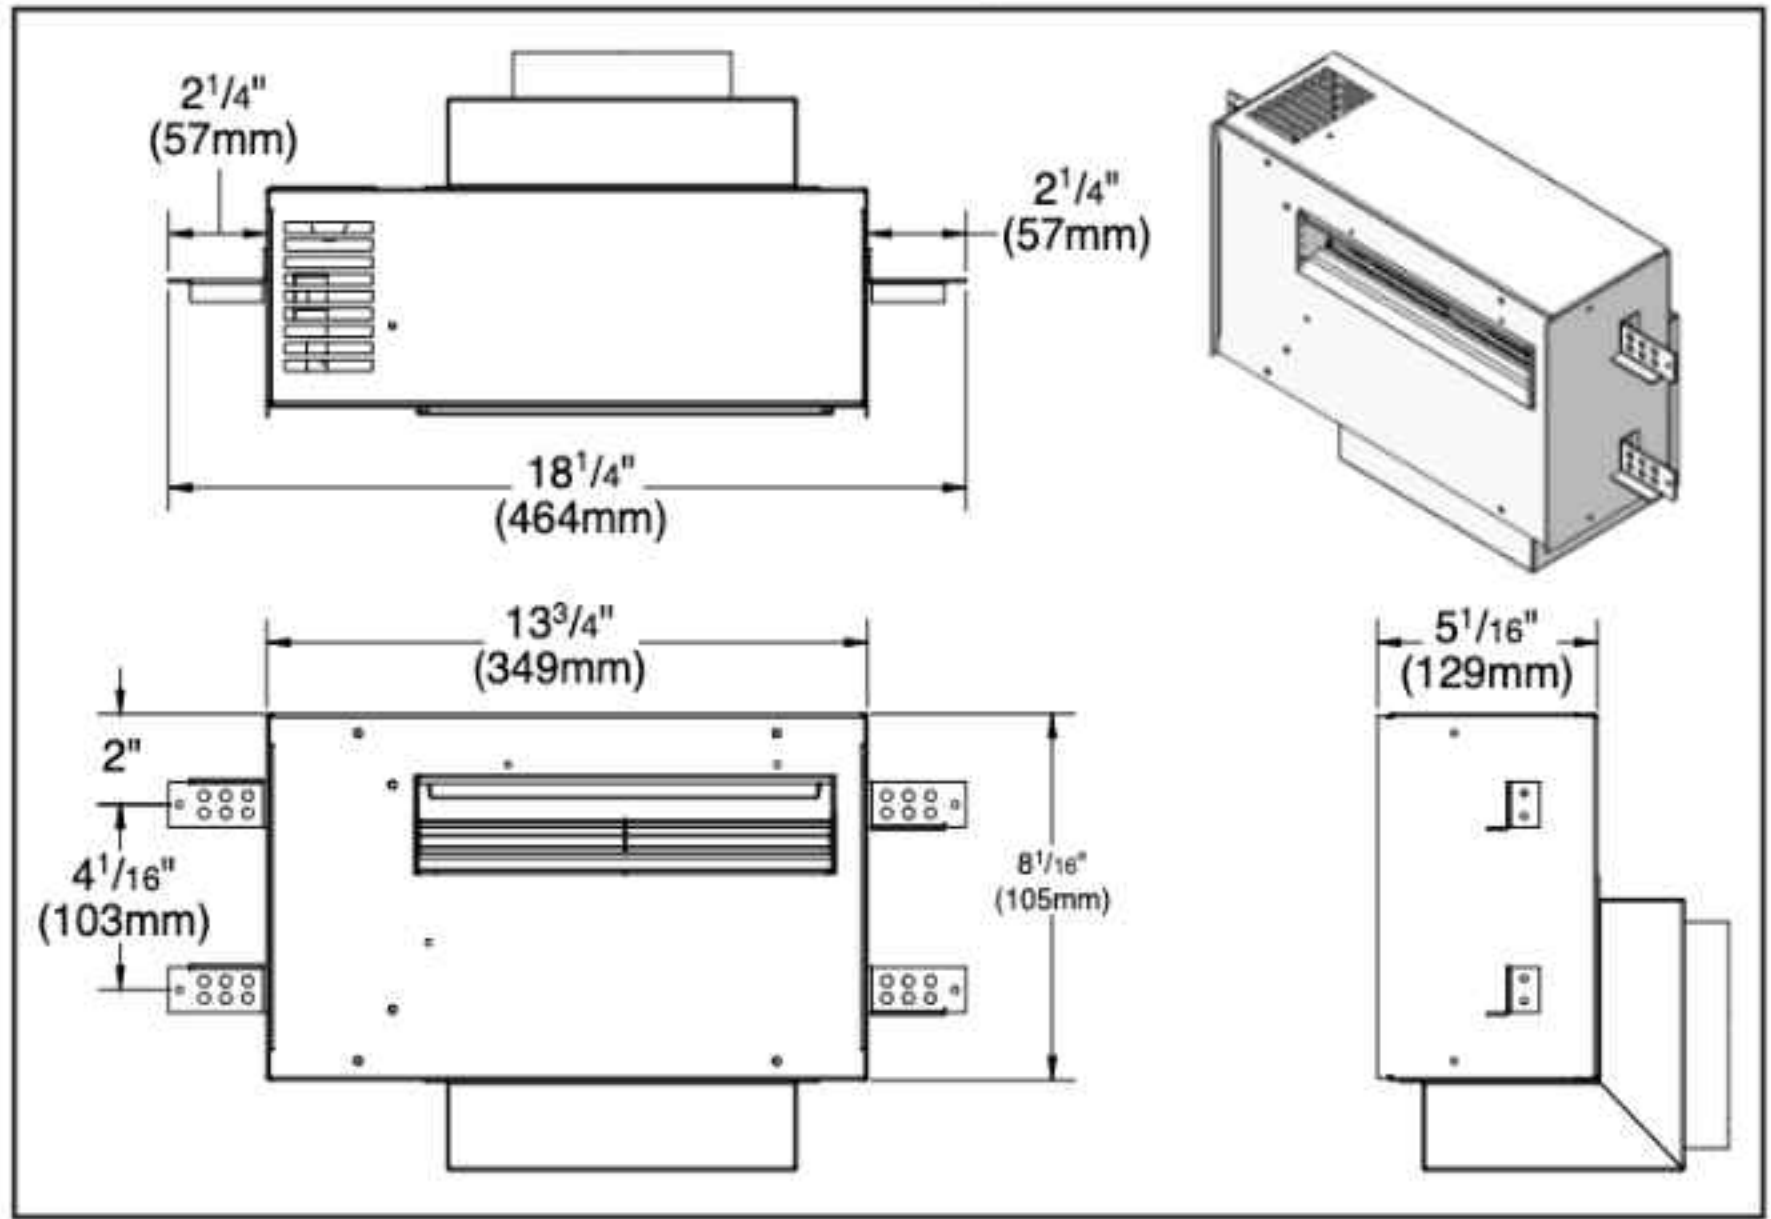
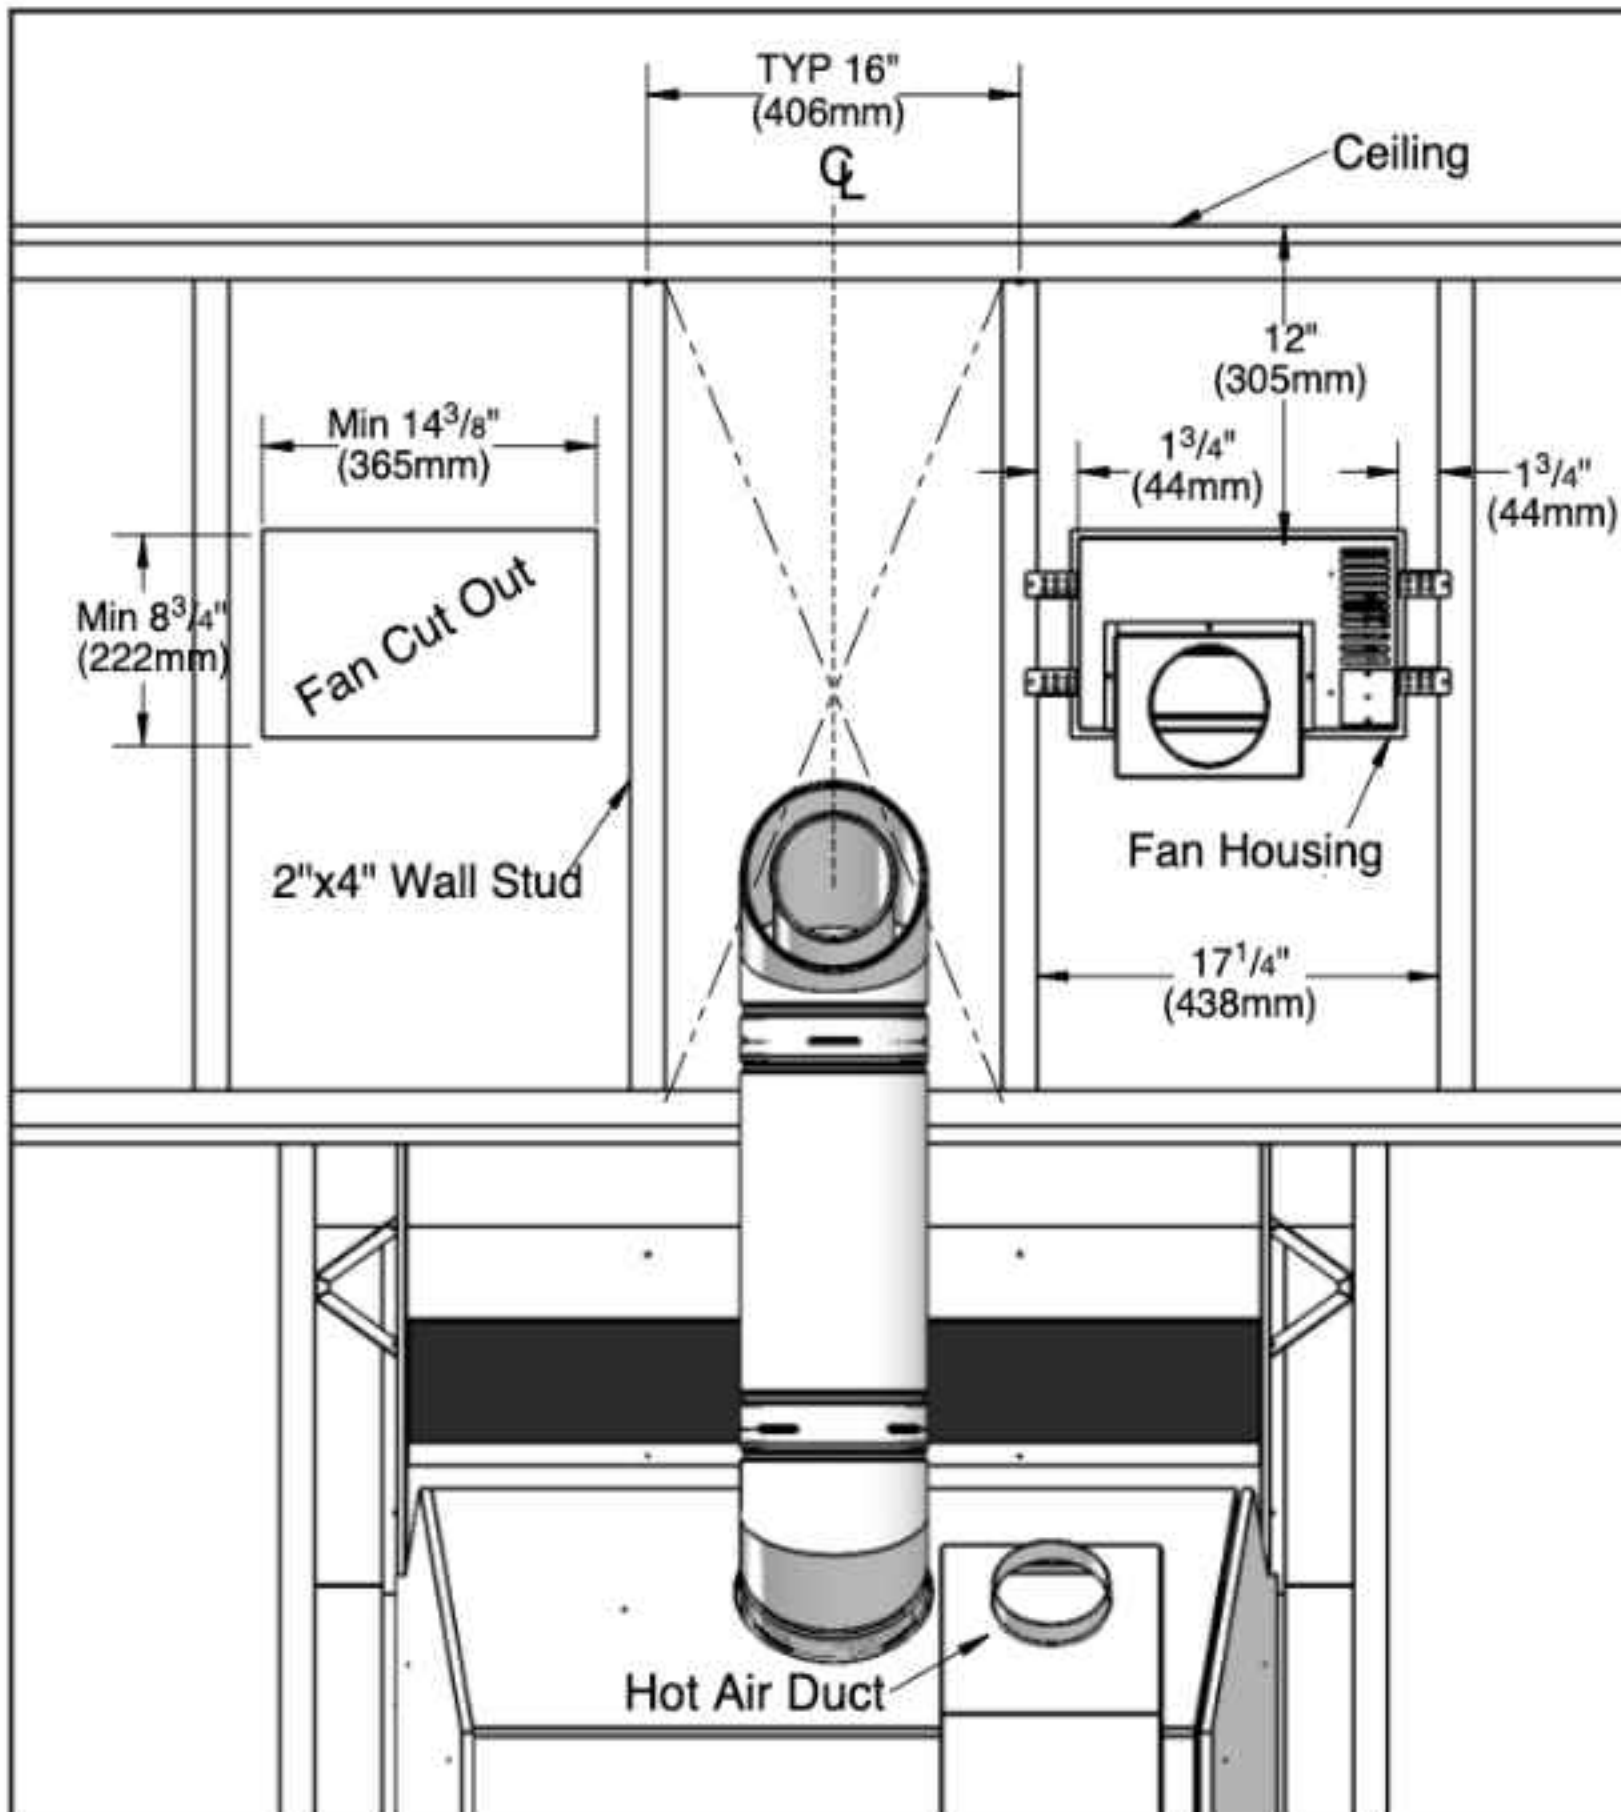

Figure 5: Fan housing overall dimensions.
Figure 6: Minimum Installation Clearances for Fan.
4. With the "FIGURE 5: FAN HOUSING OVERALL DIMENSIONS," and "FIGURE 6: MINIMUM INSTALLATION CLEARANCES FOR FAN."